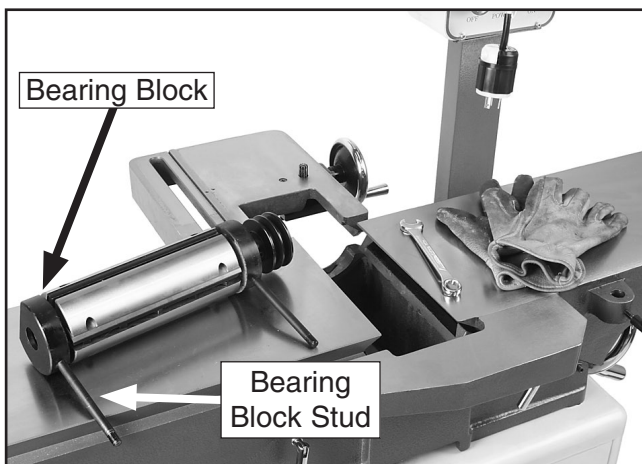

Figure 4. Cutterhead removed.
- Wearing heavy leather gloves, carefully remove the cutterhead from the casting (see **Figure 4**).